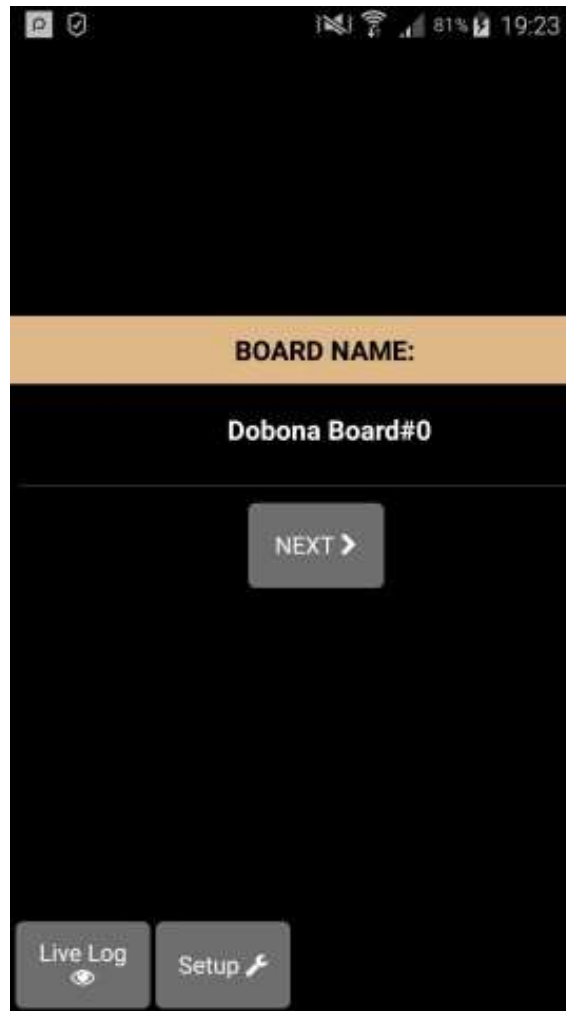

Fig 4.
7. HE IS THEN PRESENTED WITH THE NEXT SCREEN WHERE HE IS PROMPTED TO ENTER A NAME FOR THE DOBONA BOARD HE CHOSE (Fig.4). SUPPOSING HE WRITES “fridge\_temp” AS NAME AND MAKES SURE THE PHONE/TABLET HAS AN INTERNET CONNECTION, AND PRESSES ON THE NEXT BUTTON, HE/SHE IS TAKEN TO A NEW SCREEN TO REGISTER THE BOARD ON THE PHONE/TABLET (Fig.5).